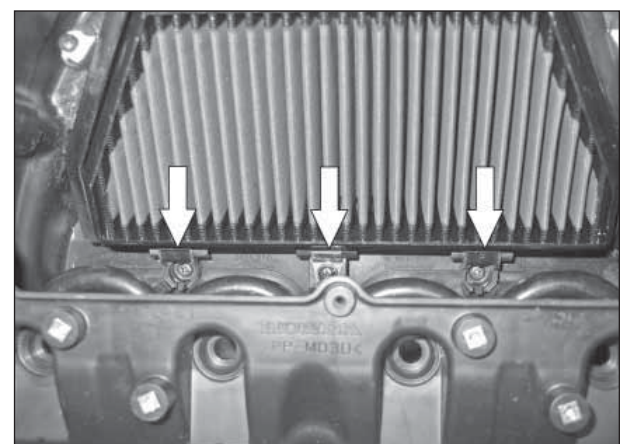

Fig. 5
6. Install the air filter plate onto the K&N® air filter. The three tabs will go into the air filter retainers in the air box. (Fig.5)